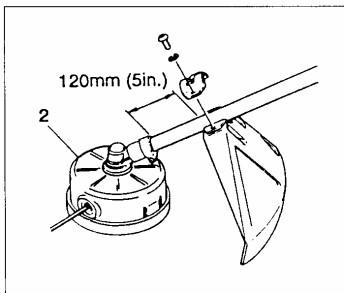

Fig. 1-8D
When using a trimmer head (2), locate the guard above the angle transmission. (Fig. 1-8D, 9B)